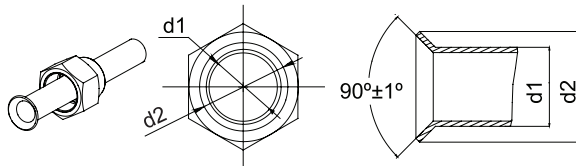

Fig.4.10
- (1). Cut the connection pipe with the pipe cutter and remove the burrs.
- (2). Hold the pipe downward to prevent cuttings from entering the pipe.
- (3). Remove the flare nuts at the stop valve of the outdoor unit and inside the accessory bag of the indoor unit, then insert them to the connection pipe, after that, flare the connection pipe with a flaring tool.
- (4). Check if the flare part is spread evenly and there are no cracks (see Fig.4.10).